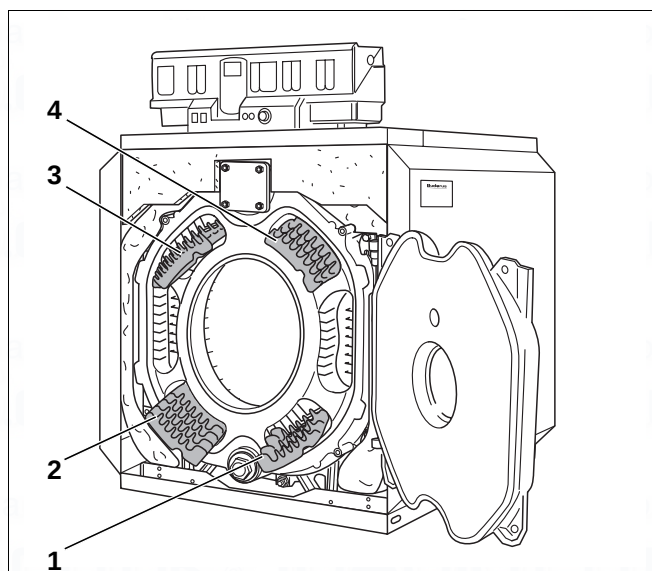

Fig. 51 Removing the hot gas baffle plates
- Take the hot gas baffle plates forwards out of the hot gas flues (Fig. 51, [1] - [4]).